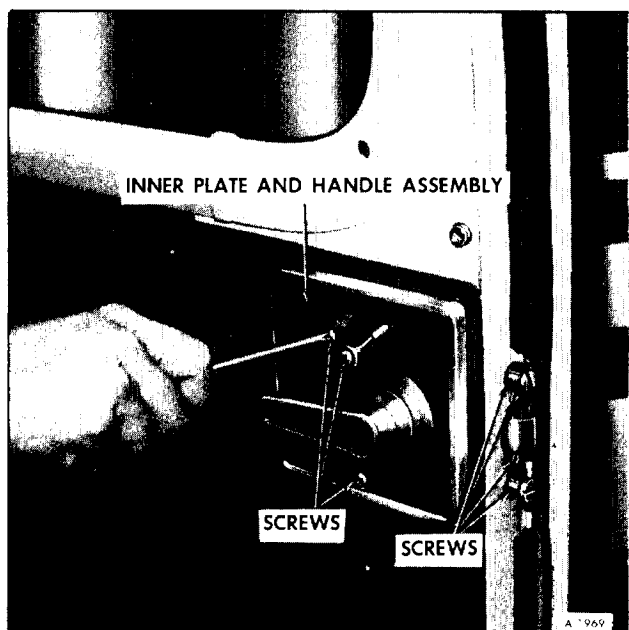

Figure 16-Removing Screws on Type I Lock
1. Remove screws as shown in Figure 16. Remove inner plate and handle assembly.